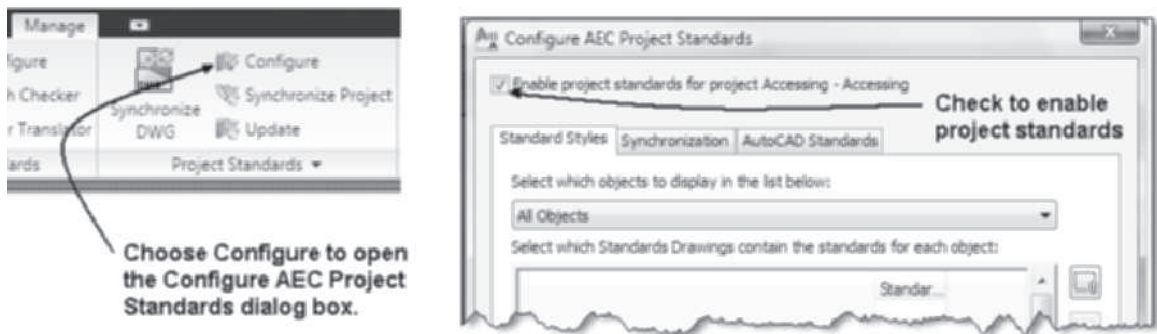

FIGURE 10.36 Project Properties dialog box
3. Select the Manage tab. Choose Configure from the Project Standards panel to open the **Configure Standards** dialog box as shown in Figure 10.36. Check Enable project standards for project.